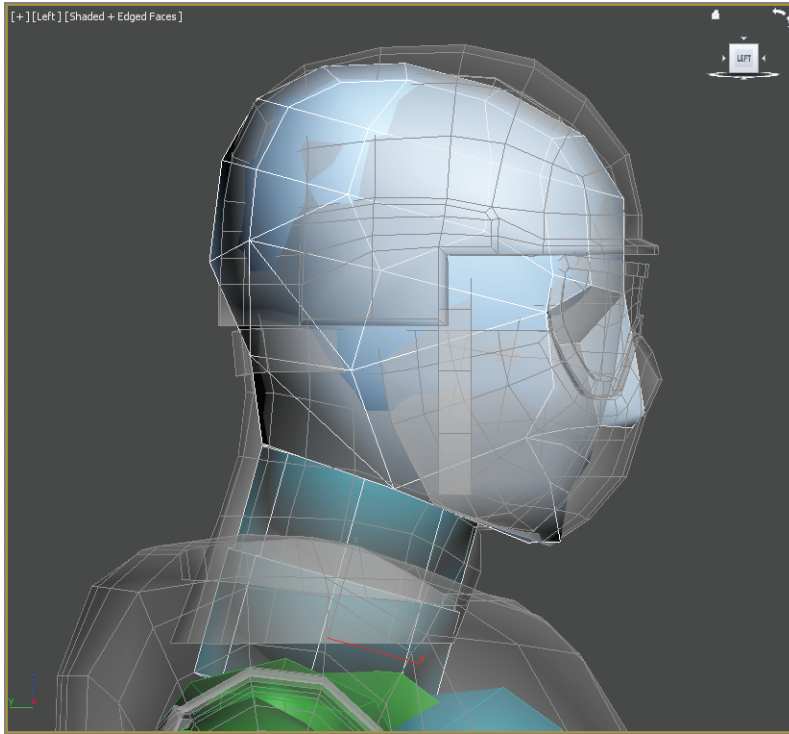

FIGURE 12.15 Matching the head
3. Move and scale the head to the approximate size of the soldier's head, as shown in Figure 12.15.